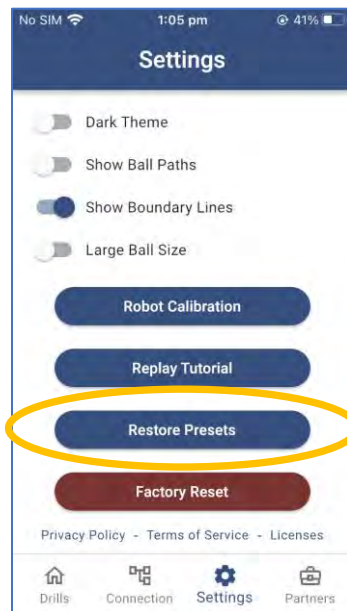

Figure 3-21
3.3.4 Restore Presets (Figure 3-21)